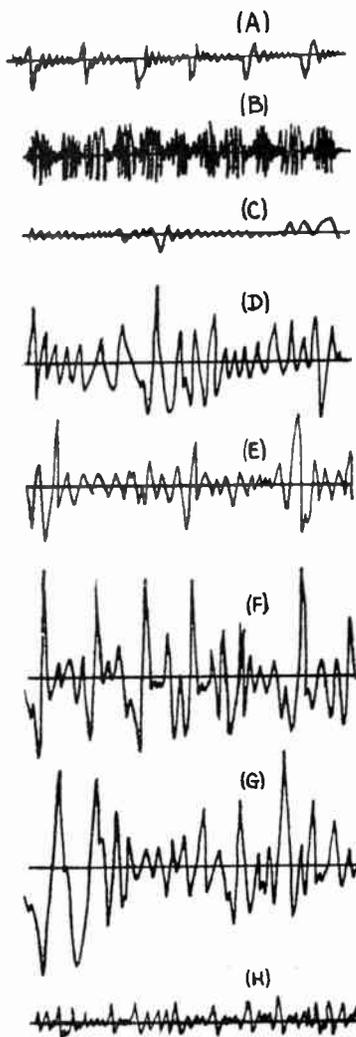

FIG. 7
The reason why most disturbing electrical devices can be recognized by the sounds they cause in the radio receiver output is that almost every one of these electrical devices produces in its supply line, disturbances having a particular wave-form. When these are received by the receiver, and are amplified and detected, they produce particular sounds. In order to make this clear, a number of oscillograms of the characteristic disturbances produced by several common electrical devices were taken. They are reproduced in Fig. 7 and labeled. An oscillograph was connected to the output circuit of a receiver whose antenna circuit was subjected to the interference in each case. These oscillograms show some very interesting things about such interference. Note the general similarity of interference produced by sparking devices (A), (D), (E), (F), (G). Also notice the great reduction brought about in the interference (G) which was produced by a badly sparking universal motor when the brushes were fitted properly and the commutator was cleaned (H). The use of cathode-ray oscilloscopes in noise-reduction work by service men in order to reveal the *character* of the interference, is very helpful.